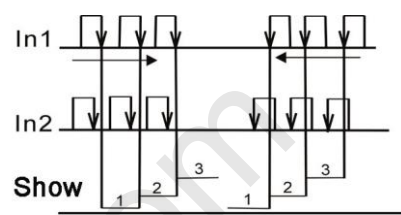

Figure 3-3
① controlled addition count: IN2 switch off or input high level, when IN1 receive signal, it mean addition count
② Controlled subtraction count: IN2 and GND are short circuit or input by low level, when IN1 receive signal, it is subtraction count
(3) Mode 3, identifiable phase count (see figure 3-3):